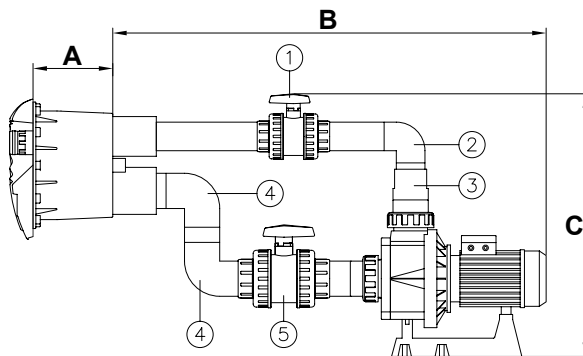

Fig. 7
- Glue a Ø 75 mm. pipe (\*) to the discharge mouth of the niche (see fig. 7).
- Glue the Ø 75mm. valve (no.1, fig. 7) to the Ø 75mm. pipe (\*).
- Glue a Ø 75mm. pipe (\*) to the Ø 75mm valve (no.1, fig. 7).
- Glue the Ø 75mm. elbow (no.2, fig. 7) to the Ø 75mm. pipe (\*).
- Glue a Ø 75mm. pipe (\*) two the elbow (no.2, fig.7).
- Glue a 90/75/63 mm. conical reducer (no.3, fig. 7) to the Ø 75mm (no.2, fig. 7) and the Ø 90mm. connector on the pump.
- Using a Ø 90mm. pipe (\*), glue a Ø 90 mm. elbow (no.4, fig. 7) on to the suction mouth on the niche (see fig. 7).
- Using a Ø 90mm. pipe (\*) joint the other Ø 90mm. elbow (no.4, fig. 7) to the elbow already glued (see fig. 7).
- Glue the Ø 90mm. valve (no.5, fig. 7) to the elbow (no.4, fig. 7) using a Ø 90 mm. pipe (\*) to join them.
- Glue a Ø 90 mm. pipe (\*) to the valve (no.5, fig.7) and to the Ø 90mm.connector on the pump.